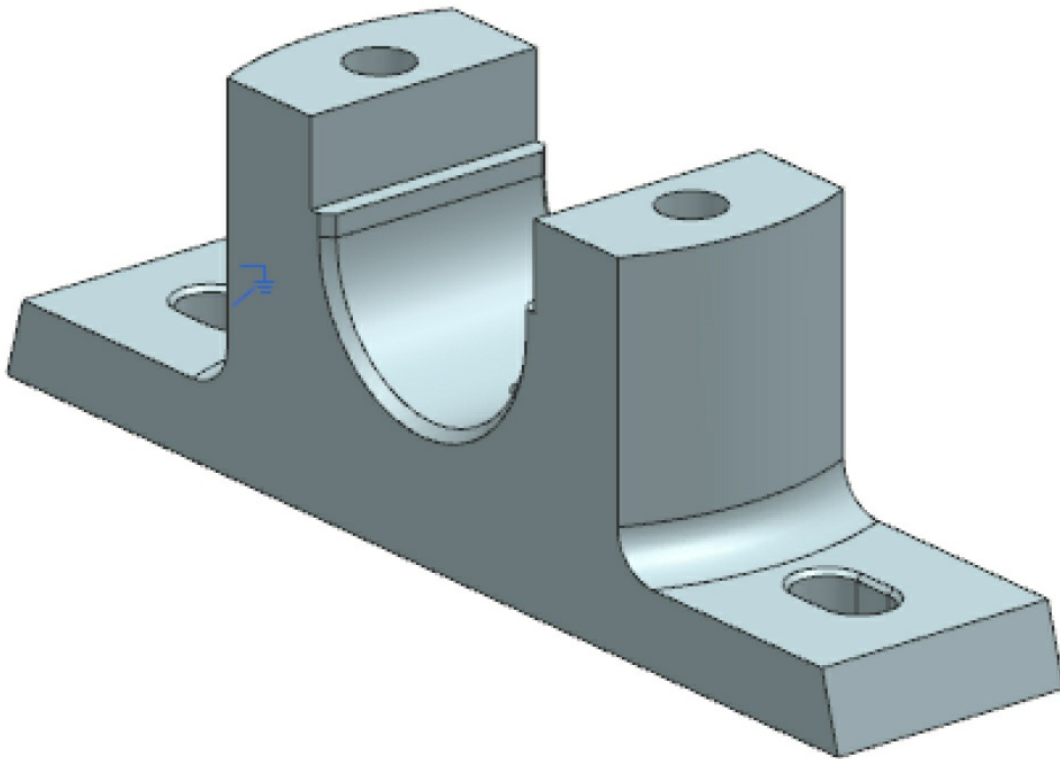

Figure 8-82 Casting assembled in the Assembly environment
- Insert the Casting in the assembly window and assemble it, refer to Figure 8-82.
6. Right-click on the Casting to display a shortcut menu. Next, choose **Replace Reference Set > MODEL** from the shortcut menu. The assembly after assembling the Casting is shown in Figure 8-82.